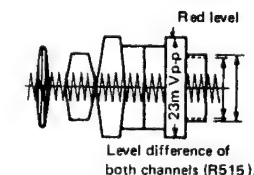

Figure 2-7
- Adjust R515 (record chrominance level control) so that the red level becomes 23m Vp-p as shown in Fig. 2-7.